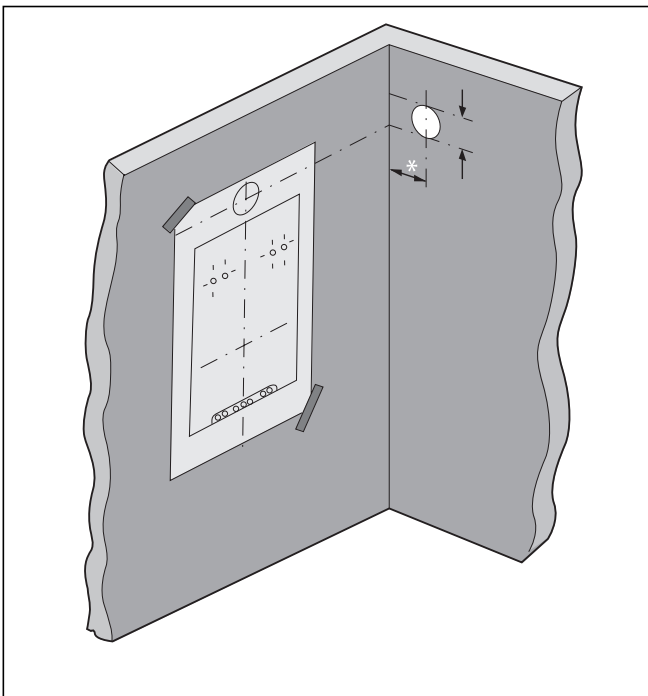

Fig. 3.7 Installation template
- Identify the correct measurement as shown in fig. 3.7, carefully measure the distance from the bottom centre of the boiler hanging bracket (centreline of the two lower hanging bracket fixing holes). This gives the position of the centreline of the 127 mm flue elbow and adaptor when installed.